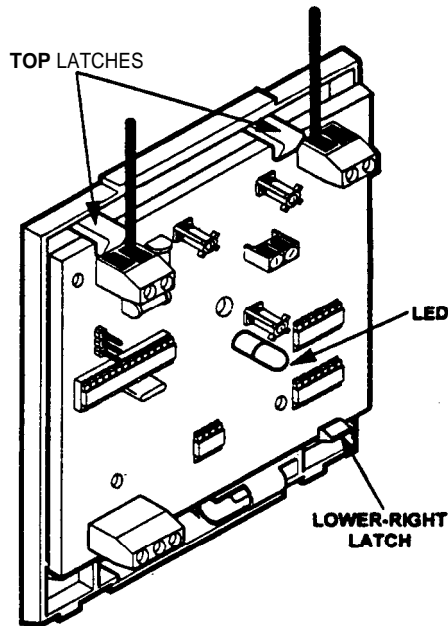

figure 3. Removing the Circuit Board
3. Press down on the lower-right corner of the base until the latch releases the circuit board (see Figure 3). Gently lift the circuit board by the terminal block to remove it from the base. Place the circuit board in the cover while you mount the base.